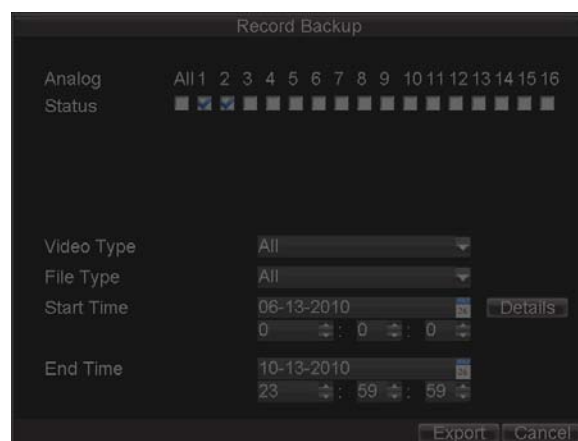

Figure 1. Record Backup
1. Click Menu > Video Export to enter the Record Backup menu, shown in Figure 1.